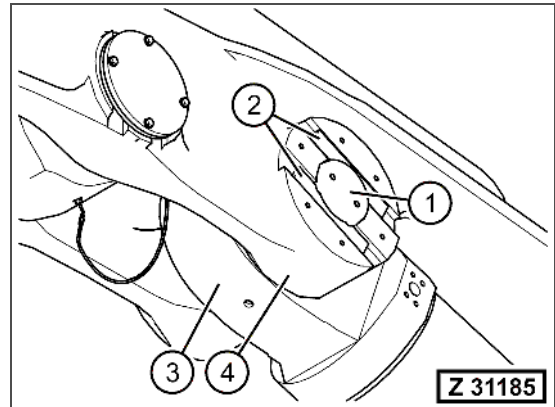

Fig. 5-185
9. Push the pin (Fig. 5-185, Pos. 1) into the cylinder eye (Fig. 5-185, Pos. 3) until justified with the pin bearing (Fig. 5-185, Pos. 4).
10. Assemble the catches (Fig. 5-185, Pos. 2) securing the pin.